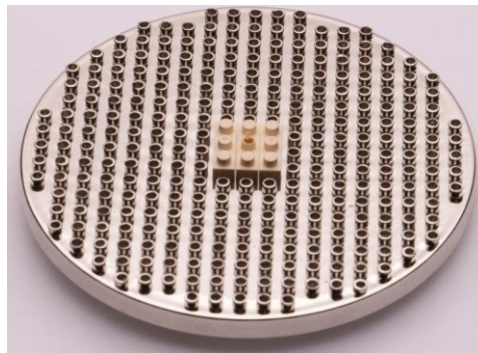

Figure 17 Dielectric Cell Configuration for Thick Monopole Antenna
13. Connect the dielectric cells for a thick monopole as shown in Figure 17.